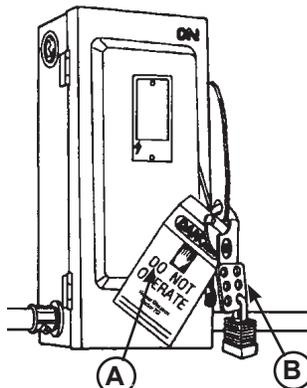

Figure 29
When working with electrical or electronic controls, make sure that the power source has been tagged (A) and locked out (B) according to OSHA regulations and approved local electrical codes (see Figure 29).